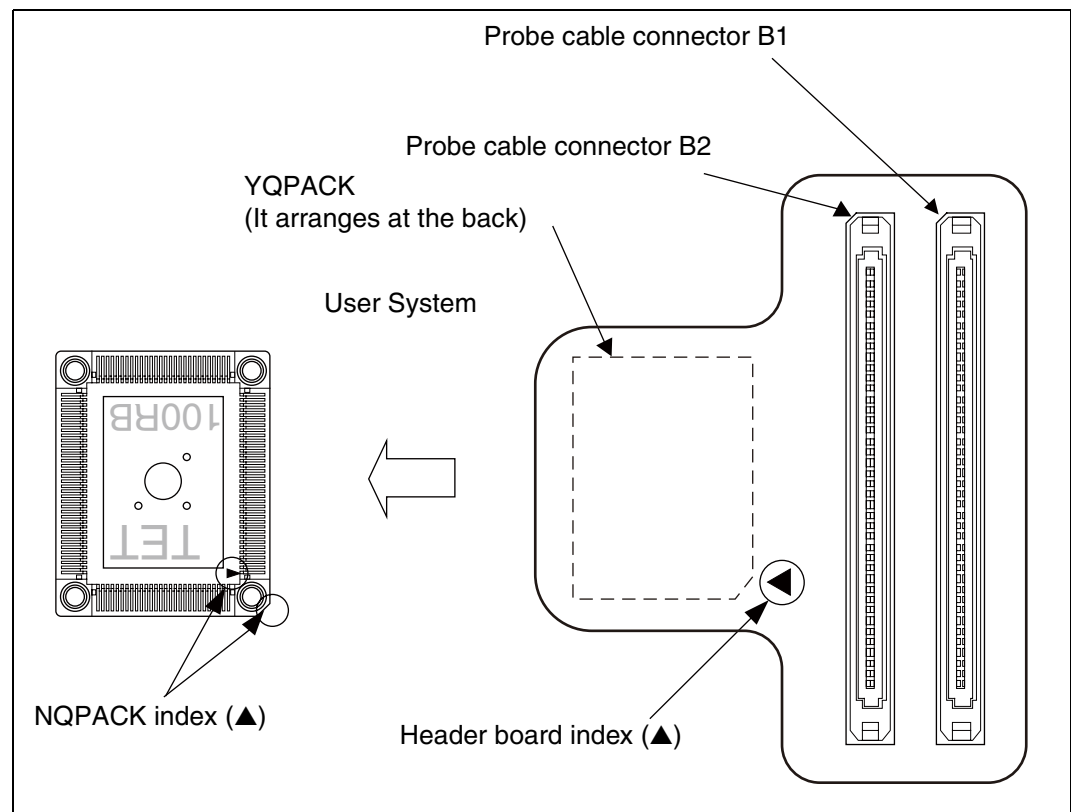

Figure 3 Index position
1. To connect the header board to the user system, match the index mark (▲) on the NQPACK mounted on the user system with the index mark (▲) on the header board and then insert it (See Figure 3). The pin of YQPACK is thin and easy to bent. Insert NQPACK after confirm that the pin of YQPACK is not bent.